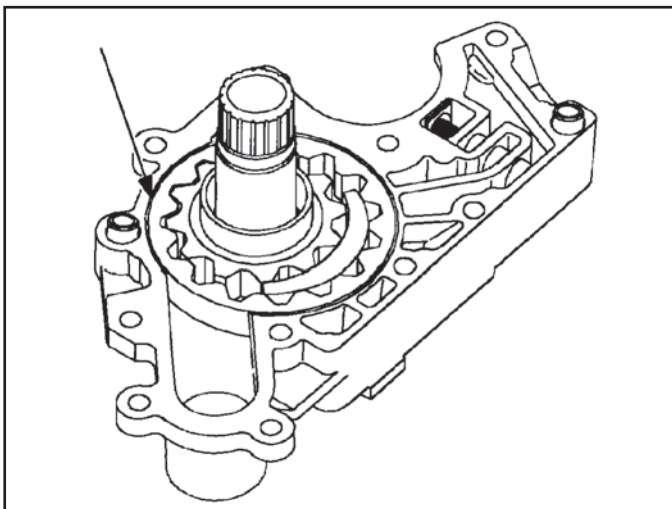

Figure 147
5. Measure the driven gear to pump housing clearance as shown in Figure 147.